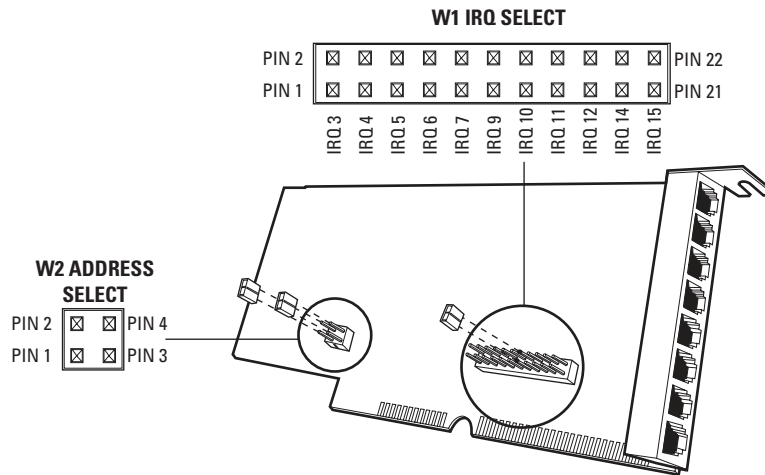

Figure 17. Sample CM9700-SER Card Jumper Assignments
4. On the new CM9700-SER card, set the W1 interrupt (IRQ) and W2 address select jumpers (refer to Figure 17 and to Table E). Note that the jumper settings vary depending on the ISA slot into which the card is to be installed. If you are replacing a card, the jumper settings should match the settings on the card being replaced.